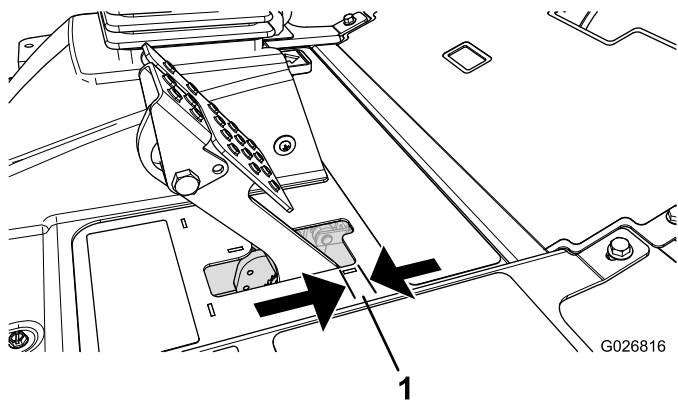

Figure 138
4. Lightly press the brake pedal; and measure the distance the pedal moves without resistance (Figure 138).
Note: Adjust the brakes if there is more than 2.5 cm (1 inch) of free travel (Figure 138) of the brake pedal, or if more parking-brake force is required.
6. Tighten the rear nuts to move the cable backward, until brake pedal has 6 to 13 mm (1/4 to 1/2 inch) of free travel (Figure 138), before the parking brake engages the wheels.